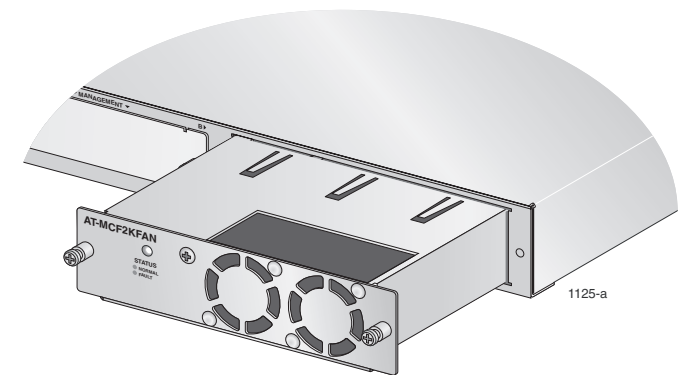

Figure 3. Installing the AT-MCF2KFAN Fan Module
3. Slide the fan module into the slot as shown in Figure 3, until it is flush with the back panel of the chassis. Light pressure may be needed to seat the module on the connector on the back panel of the chassis.